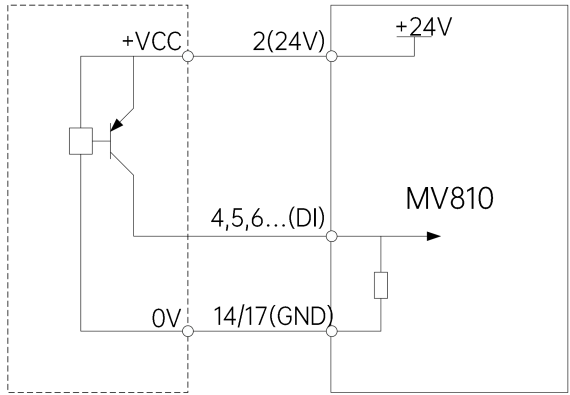

Fig. 4-14 Wiring diagram with PNP and using the internal power supply
② When the internal power supply of the drive is used and the external controller is the PNP common emitter output, the wiring is shown in Fig. 4-14.